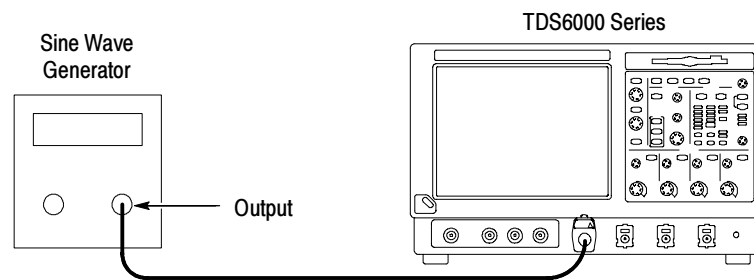

Figure 4-14: Initial test hookup
- c. *Hook up the test-signal source:* Connect the sine wave output of a leveled sine wave generator to **CH 1**. Set the output of the generator to a reference frequency of 50 MHz or less. See Figure 4-14.